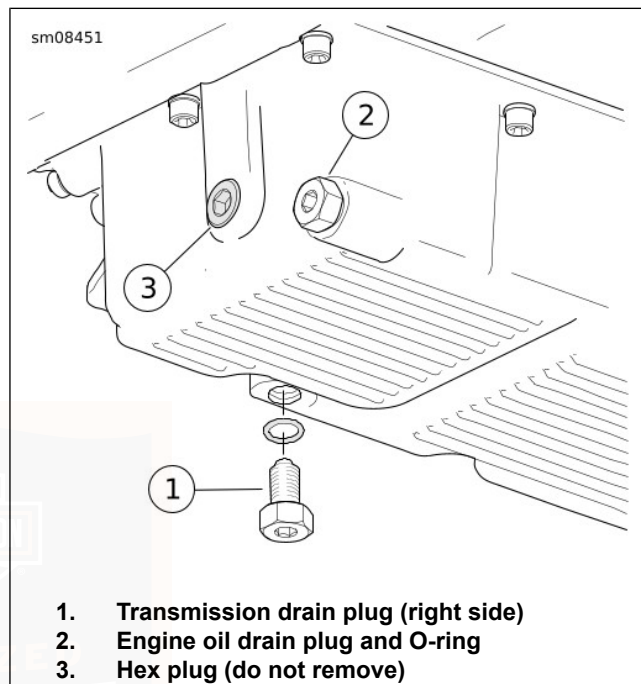

Figure 51. Oil Pan
2. See Figure 51. Remove transmission drain plug. Drain transmission.